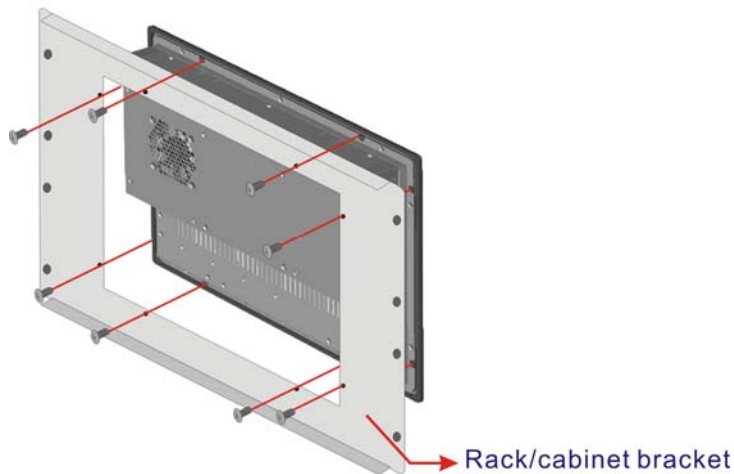

Figure 3-36: Securing the Rack/Cabinet Bracket
- Step 4:** Secure the rack/cabinet bracket to the panel PC by inserting the retention screws (**Figure 3-36**).